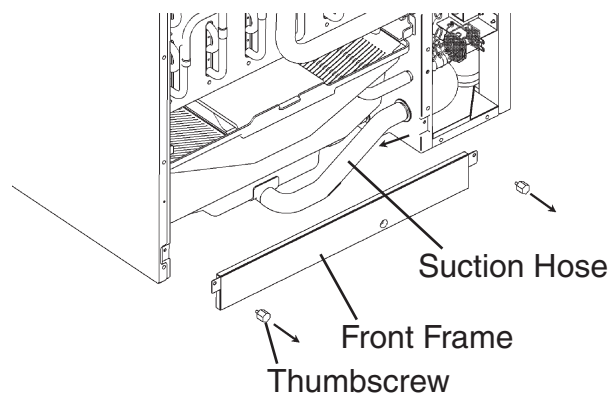

Fig. 10
- 6) Turn off the power supply, and drain the water tank by removing the front panel, front insulation panel, front frame and suction hose. See Fig. 10.